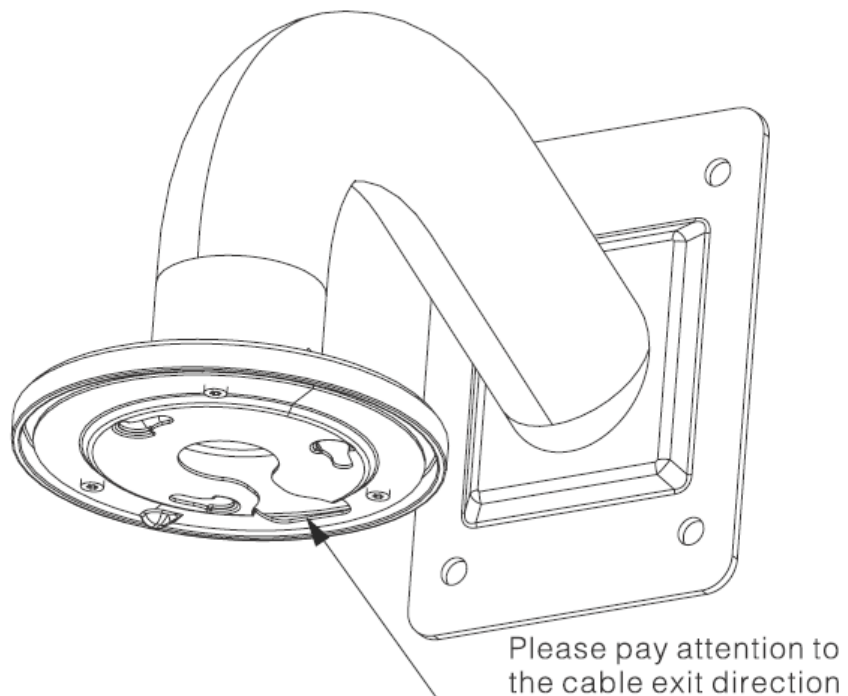

Figure 5-3
2). Connect the hanging mount to the internal thread of the wall mount bracket. Secure screws to the right side of the wall mount bracket to secure the hanging mount. **Please note this step is very important. Please make sure the screws are firm, otherwise, it may result in falling risk of the intelligent speed dome.** Use three self-captive screws to secure the sheet metal on the hanging mount. See Figure 5-3.